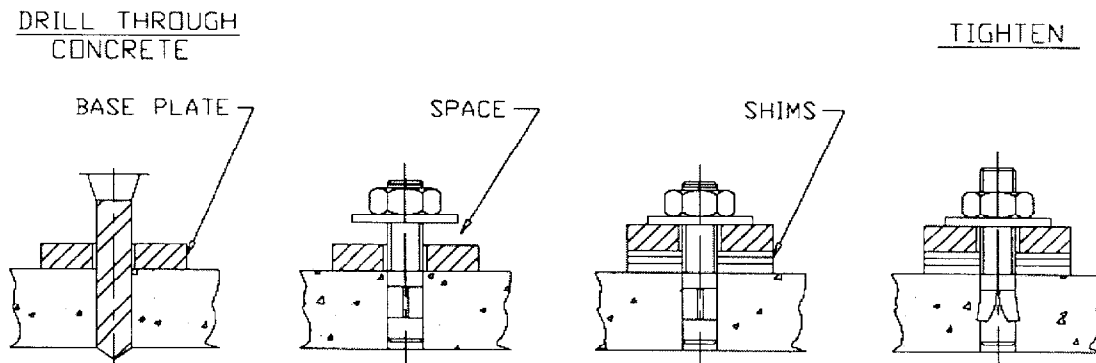

Fig. 7: Anchor Installation
6. After proper level is attained, use a rotary hammer drill and a 1/2" concrete drill bit to drill through the floor in the four (4) anchor bolt location holes on each of the base frames. Make sure that the 1/2" concrete drill is in good condition. Refer to **Fig. 7**.